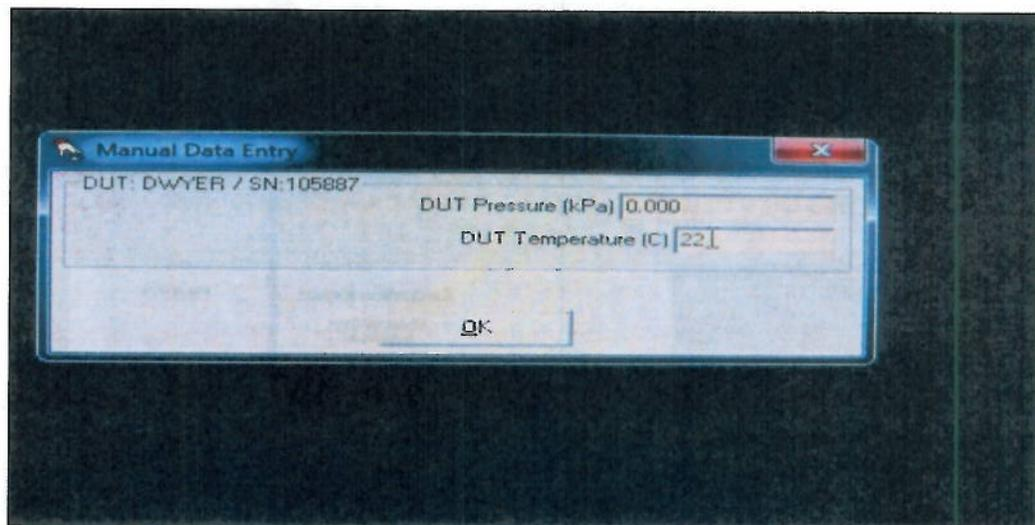

Figure 27
11.26 Click on the "OK" button. See Figure 27.